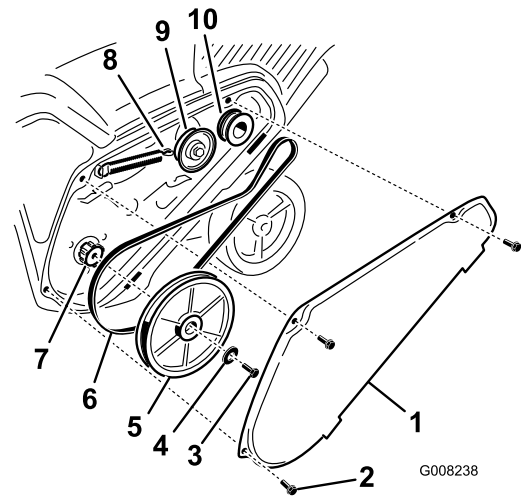

Figure 37
- Remove the drive belt cover by removing the 3 bolts as shown in Figure 37.
- Unhook the brake spring from the idler arm to release the belt tension (Figure 37).
- Remove the screw and curved washer that holds the rotor pulley (Figure 37).
- Remove the rotor pulley and the drive belt (Figure 37).
Note: Route the new drive belt first around the engine pulley, then the idler pulley, and finally around the loose rotor pulley positioned just above the rotor shaft (Figure 37).
- Install the rotor pulley onto the rotor shaft (Figure 37).
- Install the curved washer and the rotor-pulley bolt and tighten them securely (Figure 37).